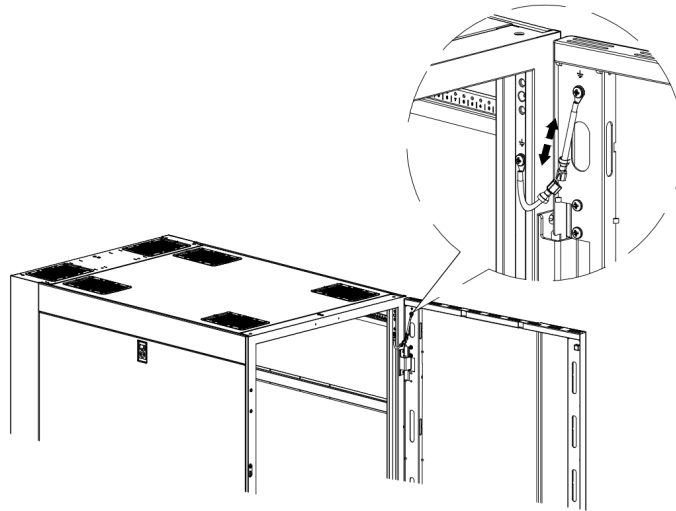

Figure 6.3.1
- Disconnect the grounding wires on the top or bottom. (Figure 6.3.1)